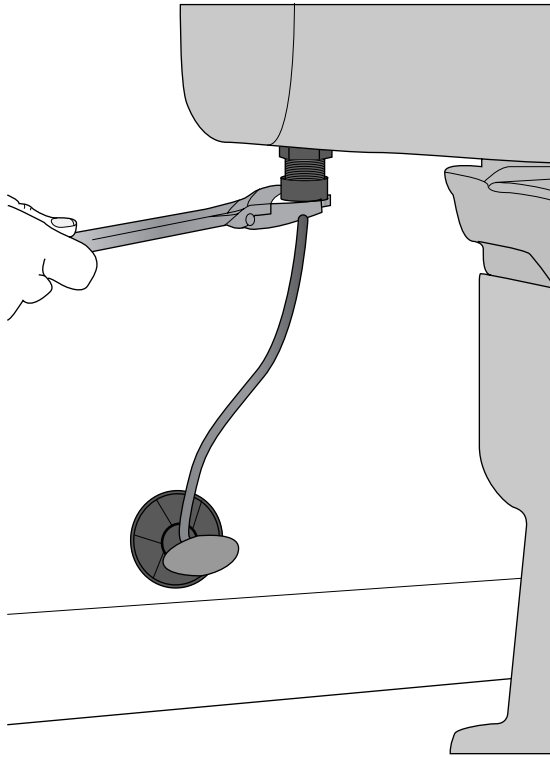

Figure 8-8:
7. Install the water-supply line (see Figure 8-8).